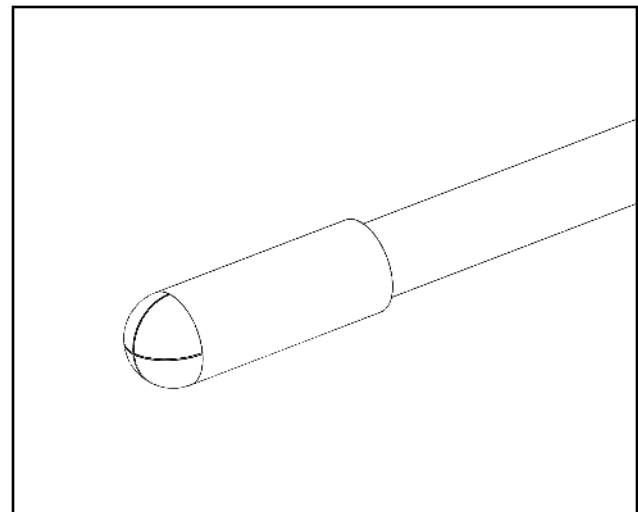

Fig. 19.3 Tube Cap
19.3 Install the slitted-rubber Tube Caps supplied in the alternator kit on the lower end of the two drain tubes by sliding on. See fig 19.3.